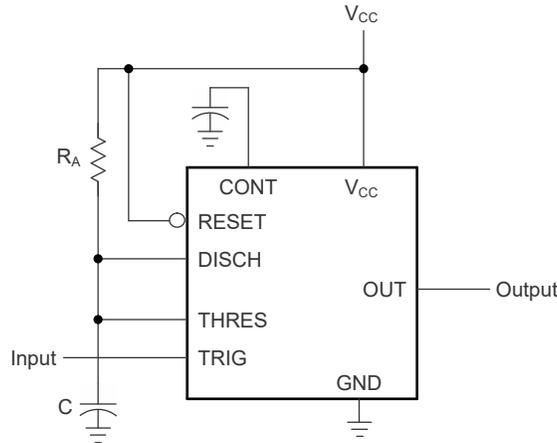

图 6-2. Circuit for Monostable Operation
- (1) For conditions shown as MIN or MAX, use the appropriate value specified under *Recommended Operating Conditions*.
- (2) Values specified are for a device in a monostable circuit similar to 图 6-2, with the following component values: $R_A = 2k\Omega$ to $100k\Omega$, $C = 0.1 \mu F$.
For monostable operation, 图 6-2 shows how to connect any of these timers. If the output is low, application of a negative-going pulse to the trigger (TRIG) sets the flip-flop (\bar{Q} goes low), drives the output high, and turns off Q1. Capacitor C is then charged through R_A until the voltage across the capacitor reaches the threshold voltage of the threshold (THRES) input. If TRIG has returned to a high level, the output of the threshold comparator resets the flip-flop (\bar{Q} goes high), drives the output low, and discharges C through Q1.
图 6-5 shows that adding a second resistor, R_B , to the circuit of 图 6-2 and connecting the trigger input to the threshold input causes the timer to self-trigger and run as a multivibrator. Capacitor C charges through R_A and R_B and then discharges through R_B only. Therefore, the duty cycle is controlled by the values of R_A and R_B .
By adjusting the length of the timing cycle, the basic circuit of 图 6-2 can be made to operate as a frequency divider. 图 6-8 shows a divide-by-three circuit that makes use of the fact that retriggering cannot occur during the timing cycle.
See 图 6-2